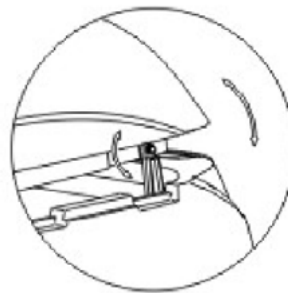

Figure 14
6. Hang up the dirty water tank(see figure 14). It is best to keep the charger from laying directly on the ground. You can put it on a wall holder (see figure 15), which is good for ventilating and keeping dry. Ensure the battery has good heat dissipation.